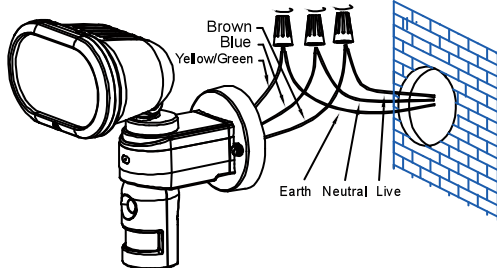

FIGURE 37
- (3) Place the gasket in position before wiring.
- (4) Connect the brown wire from the fixture to the brown (Live) power supply wire from your power source using the wire nuts provided. Connect the blue wire from the fixture to the blue (Neutral) power supply wire using the wire nuts provided. Connect the yellow/green wire from the fixture to the yellow/green (Earth) power supply wire using the wire nuts provided (FIGURE 37).